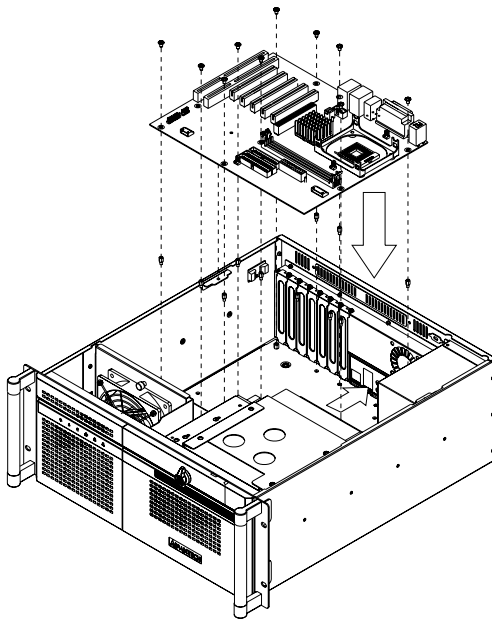

Figure 2.2: Installing a motherboard
3. Refer to Figure 2.2, and, from inside of the chassis, attach the motherboard I/O shield onto the rear plate of the chassis.
5. Refer to Figure 2.2, place the motherboard into the chassis, and fix it with screws.